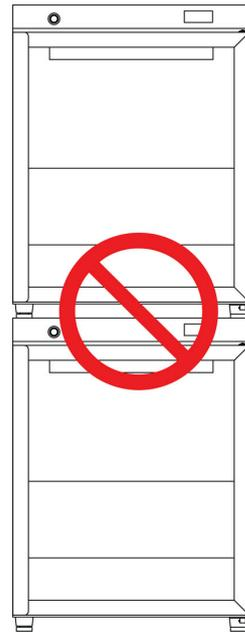

Fig 2.
- Under no circumstances should any Incubators be stacked on top of each other (**Fig 2**).